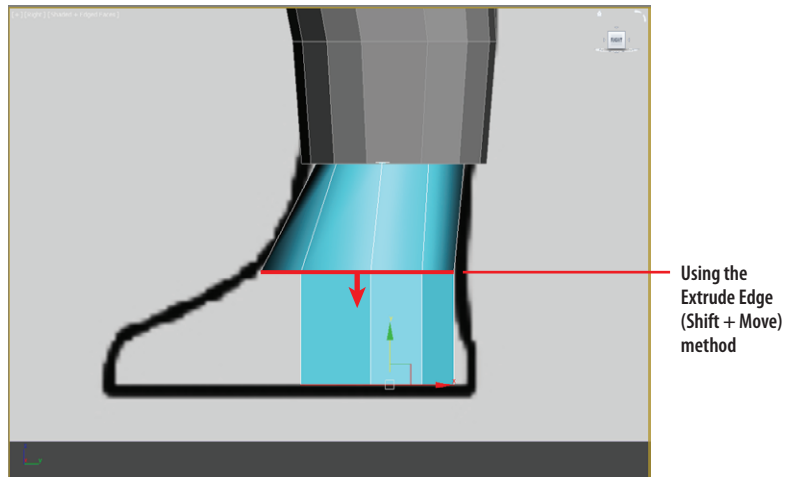

FIGURE 8.19 Using the Shift + Move method to create another set of polygons for the U-shaped back and side part of the boot
9. Extrude-move (Shift+Move) the edges of the back half of the boot top to the bottom of the boot in the image plane, as shown in Figure 8.19.